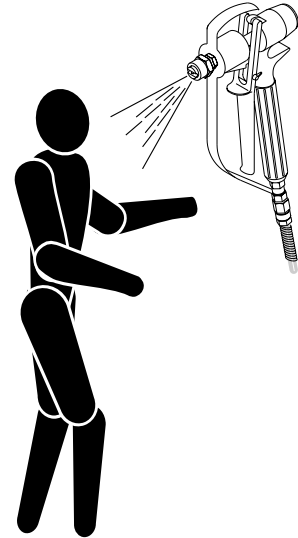

Fig.28
7) The spray gun **MUST NEVER** be aimed at people (fig. 28) or objects that are not involved in the operations. Any kind of operation should be carried out with the **gun facing downwards**.